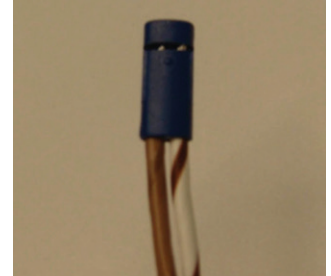

Figure 17: Inserting contacts into insulators
- Using a blue insulator from the connector kit, insert the contact into an insulator with the solid colored wire in the hole on the left (Figure 17). Be sure to maintain a twist in each pair while inserting it into the insulator.